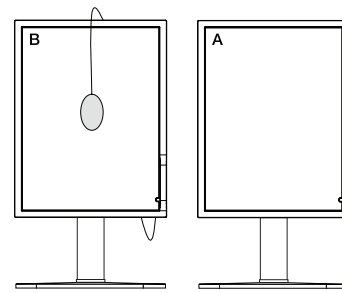

Figure C.2
8. Remove the USB optical sensor from source Display A and place in the center of Display B (Figure C.2).